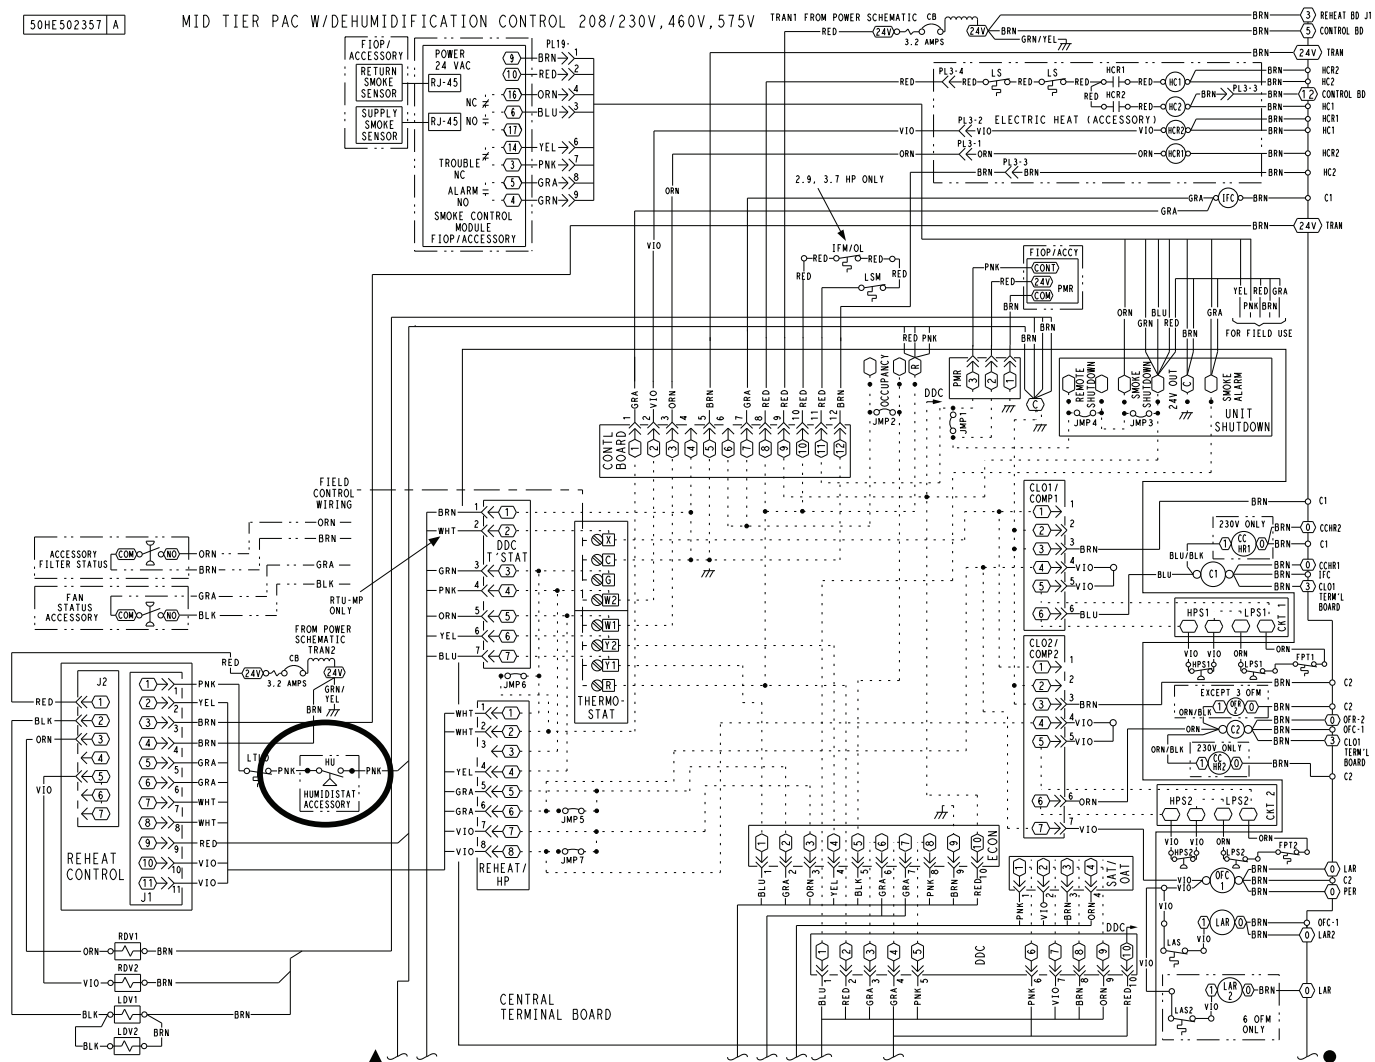

Fig. 53 — Typical Perfect Humidity™ Adaptive Dehumidification System Humidistat Wiring
3. Use wire nuts to connect humidistat cable to two PINK leads in the low-voltage wiring as shown in Fig. 53).